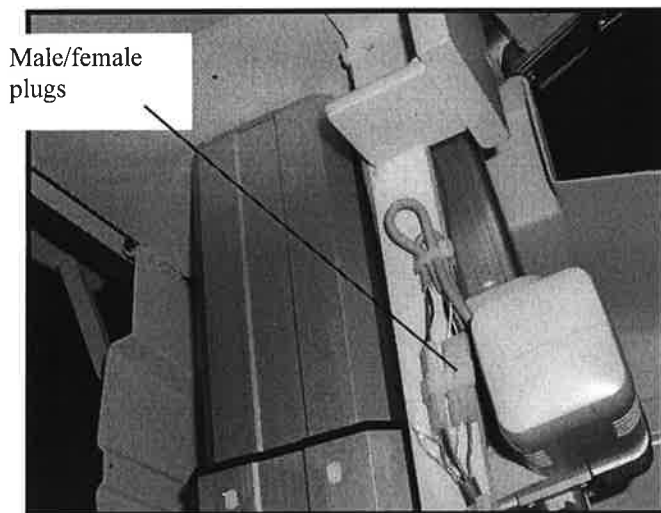

Figure 3
3) Follow the power cord from the back motor down the side of the tilt chassis, (figure 3). Unplug the applicable male/female low voltage plug, and clip the cable tie holding the back actuator wiring harness in place.